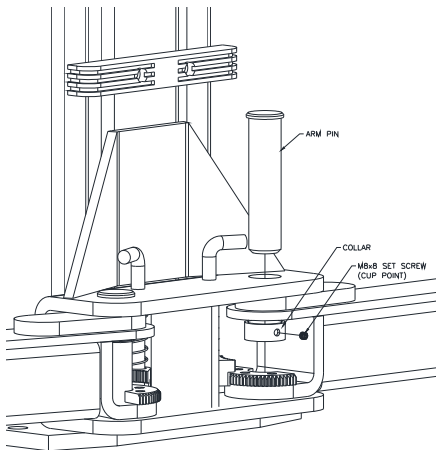

Fig 12 –Arm Pin Keeper Install
- 51) Slide the arm pin into the carriage, arm, and collar. **Fig 12.**